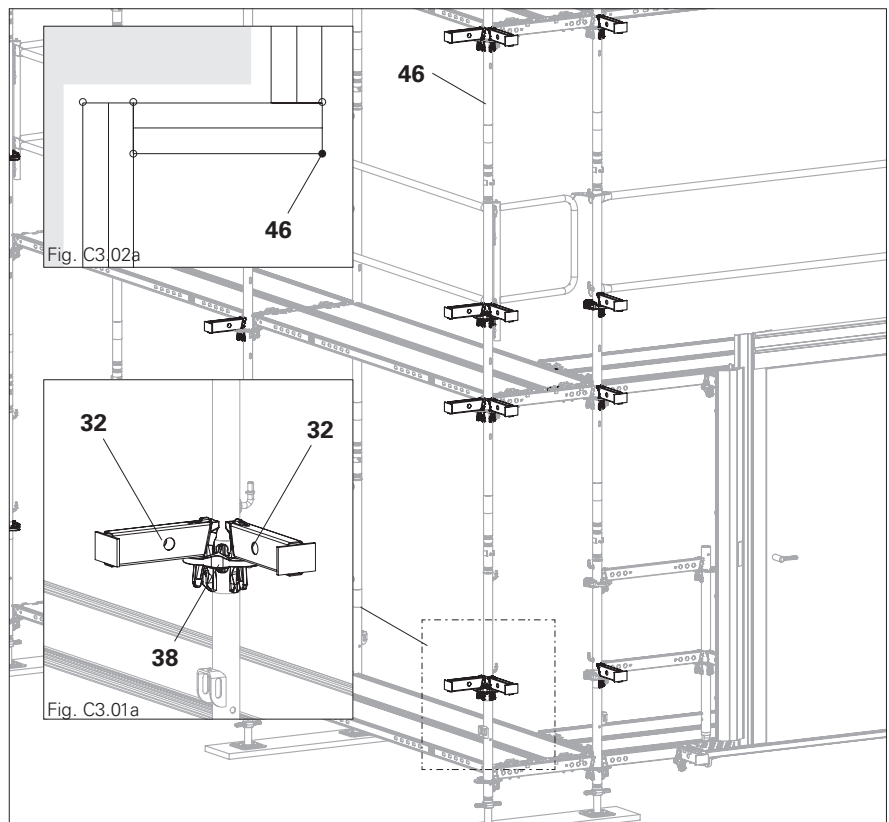

Fig. C3.01
1. Mount a Clamping Rosette UEV 90° (38) on the corner post at a height of 50 cm above each deck level.
2. Mount 2 Supports UC 25 (32) each on the rosettes at deck level and on the clamping rosettes. Secure the wedges. (Fig. C3.01 + Fig. C3.01a)